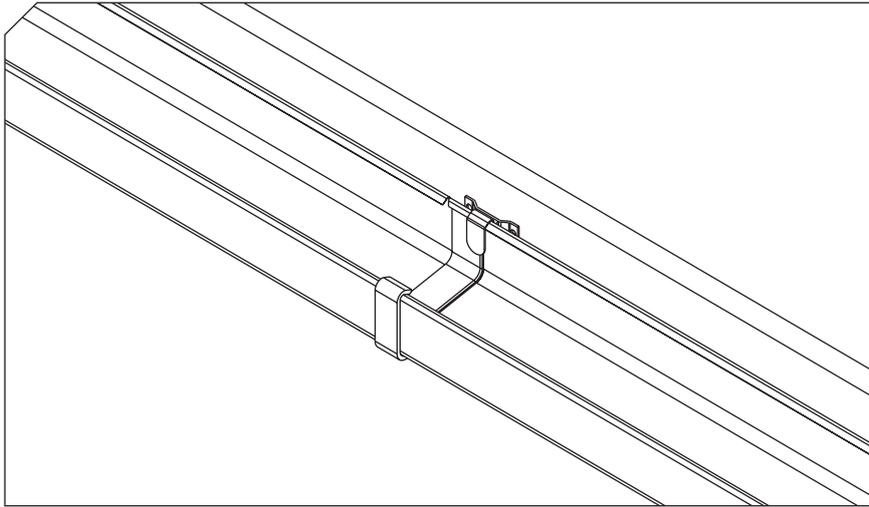

Figure 5. Bracket under a glued joint
2.4 The manufacturer recommends installing the brackets in the areas where the gutters joints are located. **(Figure 5)**